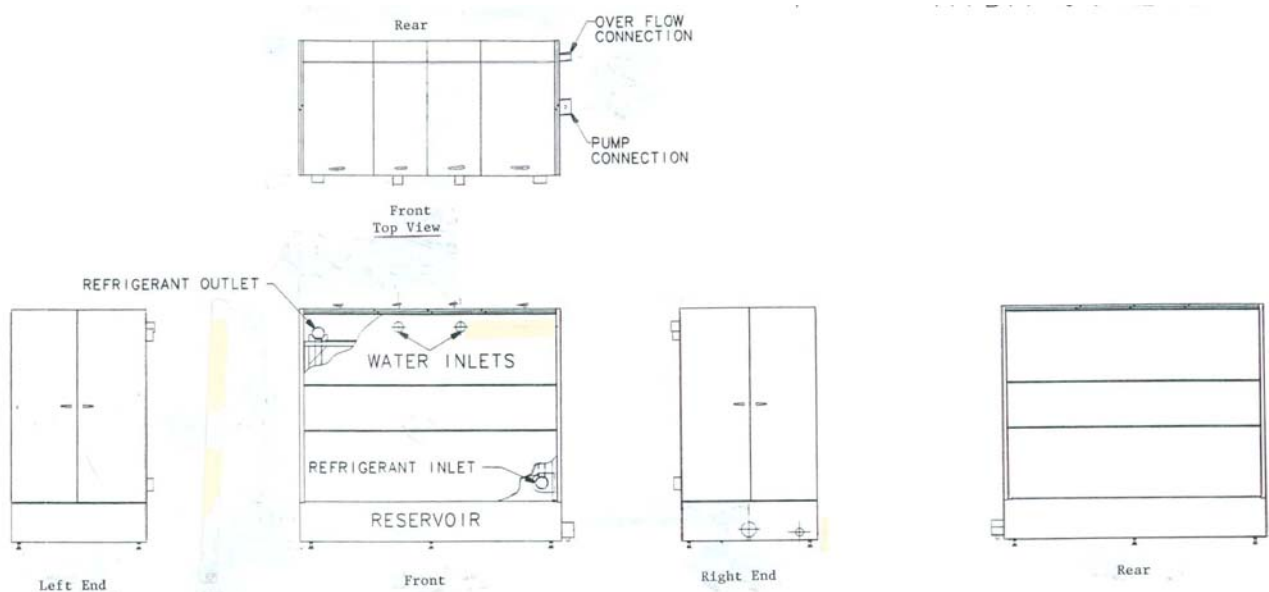

Figure 3-1 Typical Chiller Orientation (Typical HTDA9612XX Shown)
- Reference Figure 3-1 for typical chiller configuration.
NOTE: The refrigerant and water connections on the chiller can be reversed by rotating the chiller (upper section) on the reservoir during installation. Unless otherwise specified the connections will be as shown in Figure 3-1.